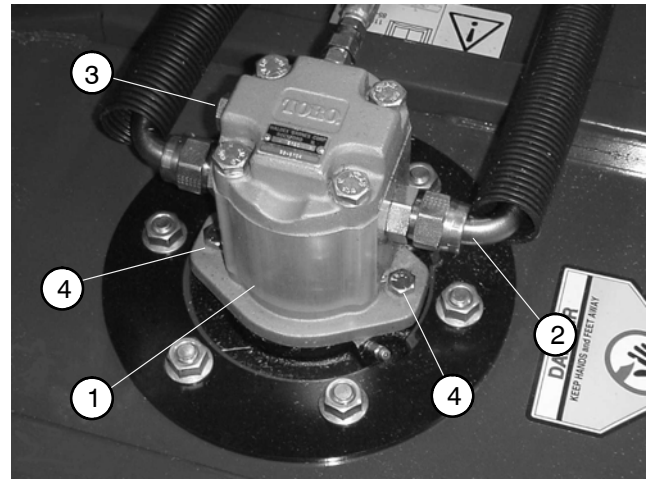

Figure 85
**Note:** Note position of hydraulic hoses when removing from the rotary motors. Proper positioning is critical when reconnecting hydraulic hoses. The inlet to the motor is opposite from the relief valve (Fig. 85).
1. Remove two cap screws that secure hydraulic motor to the cutting unit (Fig. 85). Remove hydraulic motor from deck and O- ring from top of spindle housing.